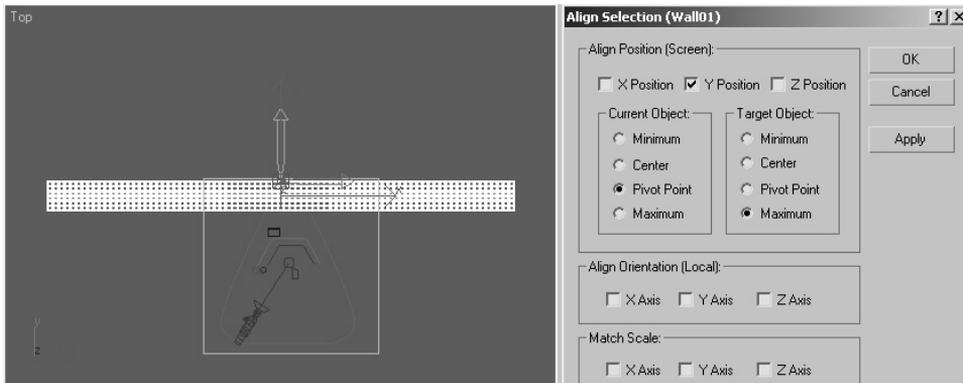

FIGURE 9.5 In the Align Selection dialog, check Y Position and choose Pivot Point in Current Object column and Maximum in Target Object column. Click OK.
2. First, move the pivot point of Wall01 to align it with what will become the bottom of your wall. Remember that the Bend modifier uses the pivot of an object as the default center of bending. With Wall01 selected, in the Hierarchy panel, Adjust Pivot rollout, click the Affect Pivot Only button. On the main toolbar, click the Align button. In the Top viewport, pick Wall01. In the Align Selection dialog, check Y Position, Pivot Point in the Current Object column, and Maximum in the Target Object column (see Figure 9.5). Click OK. In Hierarchy panel, click Affect Pivot Only to exit that mode.